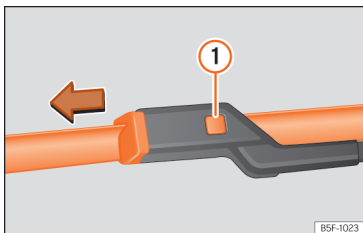

Fig. 159 Changing the windscreen wiper blades
- Press and hold release button >>> Fig. 159 ① and pull gently on the wiper blade in the direction of the arrow.